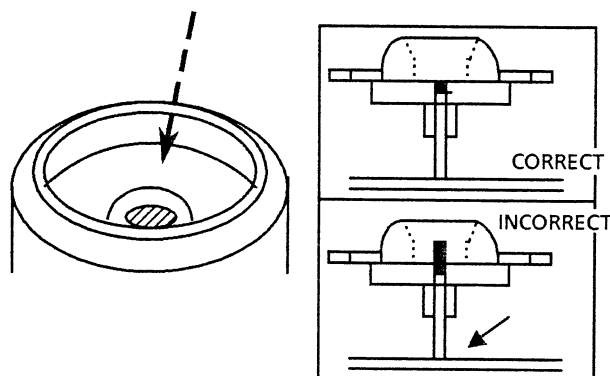

Fig 16
- (4) After inserting the turntable, bond the motor shaft and turntable together (at the section marked by an arrow in fig 16 on the left below).
- (5) Use "LOCTITE" #460 bonding agent, and apply as little as possible. Take care not to allow any excess bonding agent to get onto the turntable. Be extremely careful not to allow bonding agent to adhere to the motor bearings (the section marked by an arrow in fig 16 on the right).